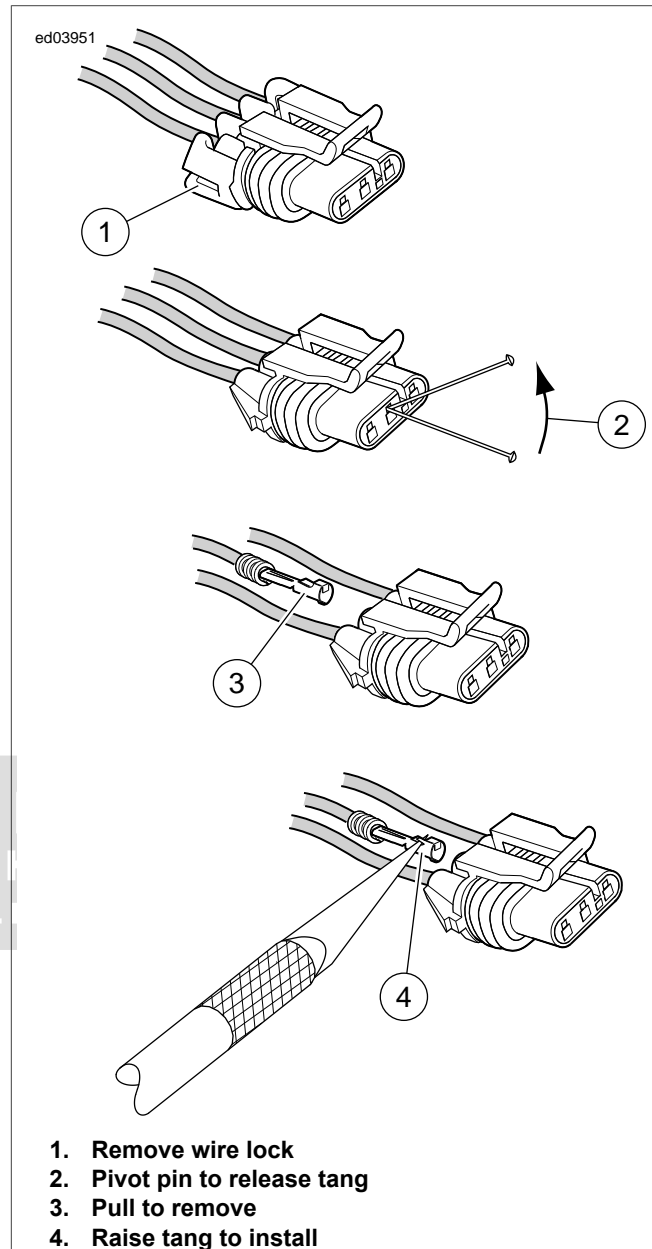

Figure B-8. Removing Delphi Metri-Pack Sealed Connector: Push-to-Seat
1. See Figure B-8. Remove secondary lock from wire end of connector.